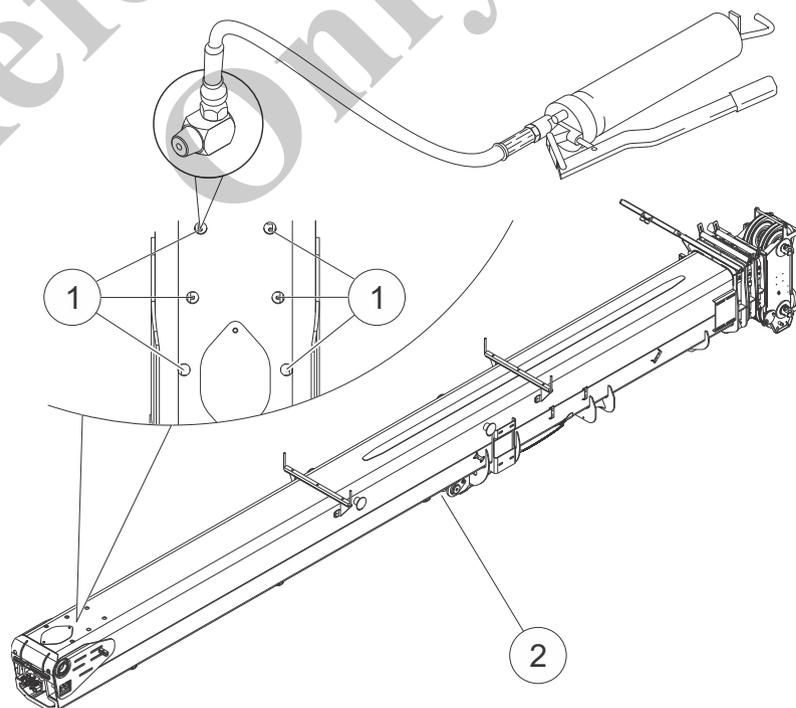

Fig. 234 Lubricating the telescopic boom
8	Grease the luffing cylinder pivot points via the lubricating nipples (2) in Fig. 234.